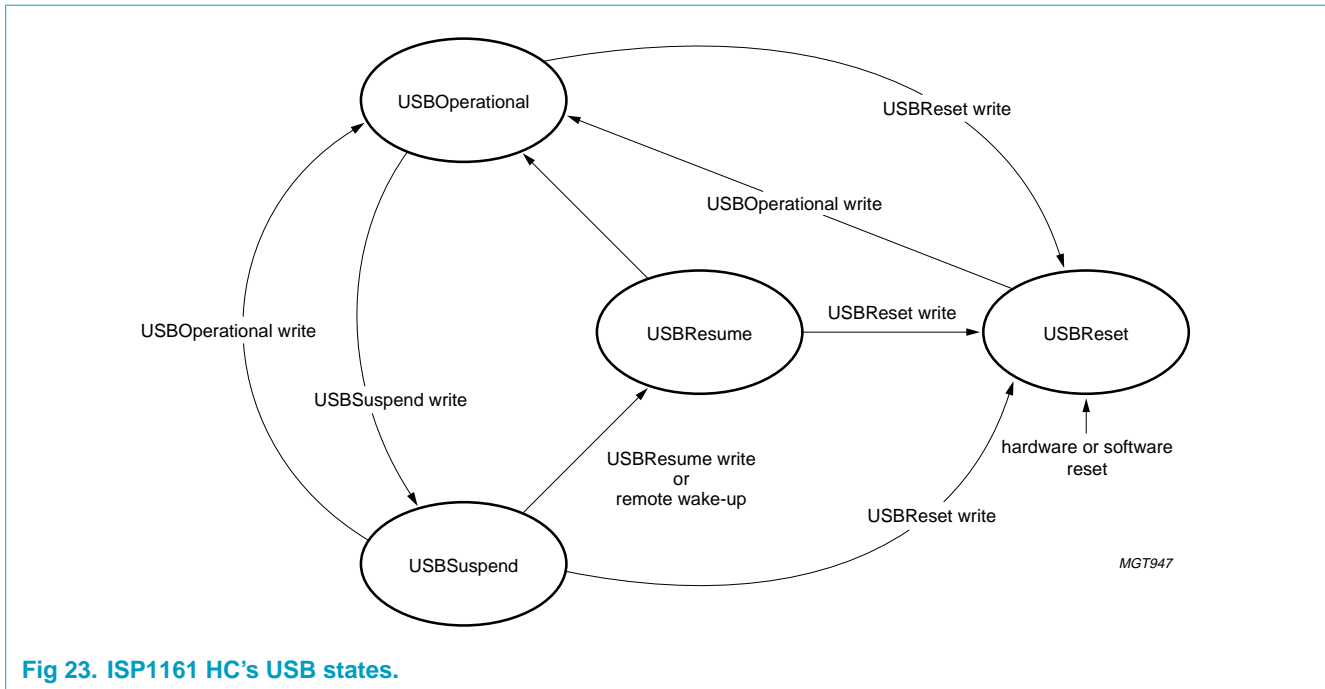

Fig 23. ISP1161 HC's USB states.
The Host Controller Driver (HCD) can perform only the USB state transitions shown in Figure 23.
**Remark:** The Software Reset in Figure 23 is not caused by the HcSoftwareReset command. It is caused by the HostControllerReset field of the HcCommandStatus register (02H - read, 82H - write).